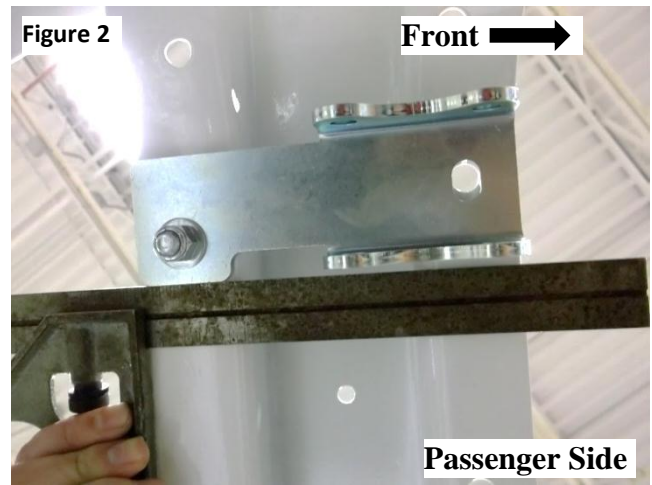

Figure 3
- Select the mounting tabs for the sway bar mount based on the amount of rear suspension drop. The longer tabs are used for stock height trucks to a drop of 4". The shorter tabs are used for lower trucks. Mount the tabs inside the bracket and install bolts as shown in **Figure 3**.